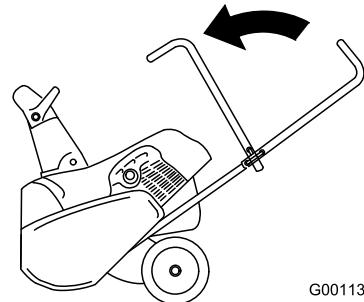

Figure 24
- Fold the upper handle forward (Figure 24).